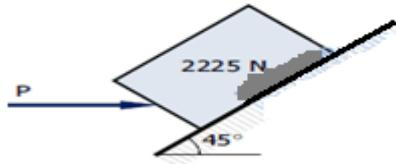

Figure P-507
- c) The 2225-N block shown in Fig. P-507 is in contact with 45° incline. The coefficient of static friction is 0.25. Compute the value of the horizontal force P necessary to just prevent motion down the incline.